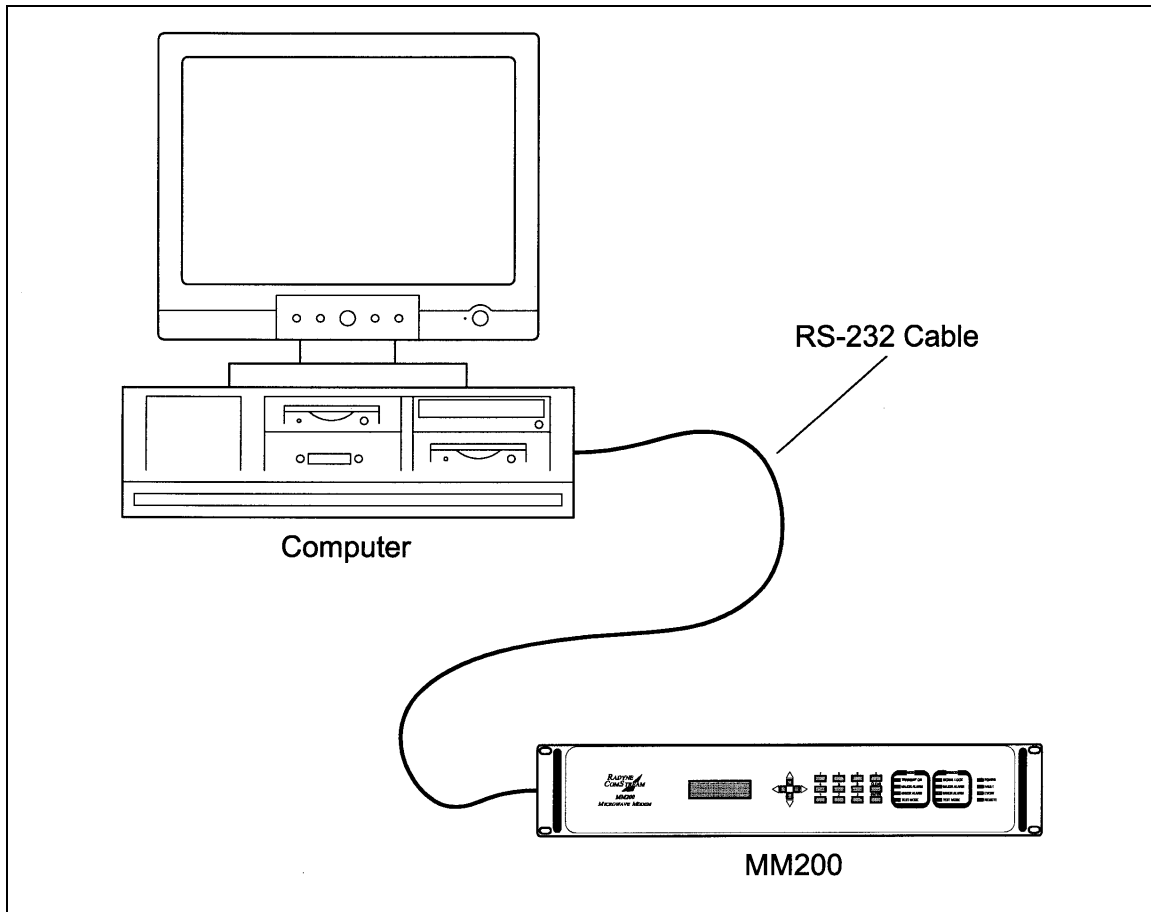

Figure 1.
1. Connect the computer to the MM200 Terminal Connector (J2) on the rear of the unit using the RS-232 Cable (Figure 1).